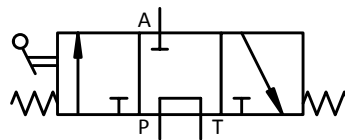

FIG 7.
- D. The symbol for a 3/3 way directional control valve is shown in Fig 7.